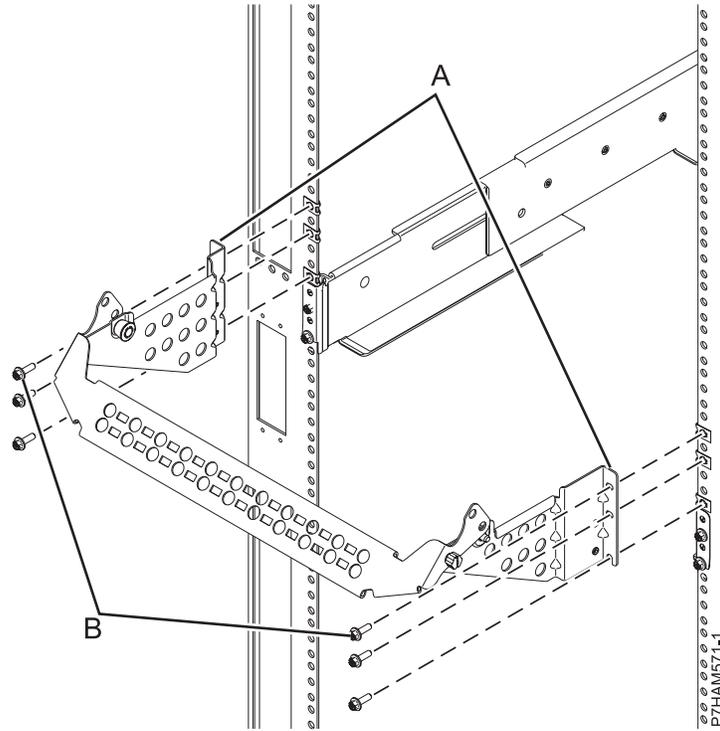

Figure 12. Installing the cable management bracket
- k. At the rear of the rack, hold the assembled cable management bracket so that its mounting flanges (**A**) align with holes in the rack flanges directly above the expansion unit rail clamps, as shown in Figure 12 on page 13. Attach each bracket mounting flange by applying M5 screws (**B**) to the three locations above the rail clamp where nut clips have been installed.